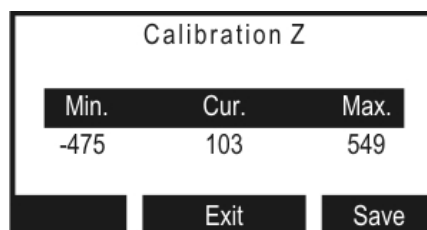

Figure 4.14.5
- c) calibration along Z axis (figure 4.14.5).